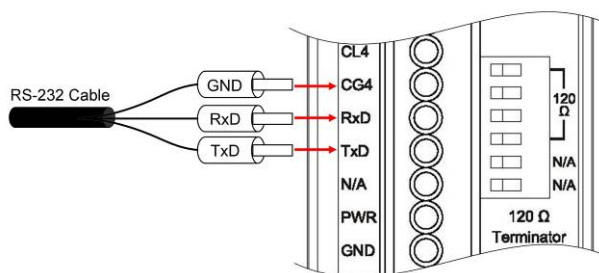

Figure 3-4 Wire connection of the RS-232
Step2: Connect the PC available COM port with the COM port of the I-2534. When connecting to the COM port of the I-2534, the TxD pin of the cable is connected to the TxD pin of the I-2534, RxD pin of the cable is connected to the RxD pin of the I-2534, and GND pin of the cable is connected to the CG4 pin of the I-2534. The figure 3-4 illustrates detail.